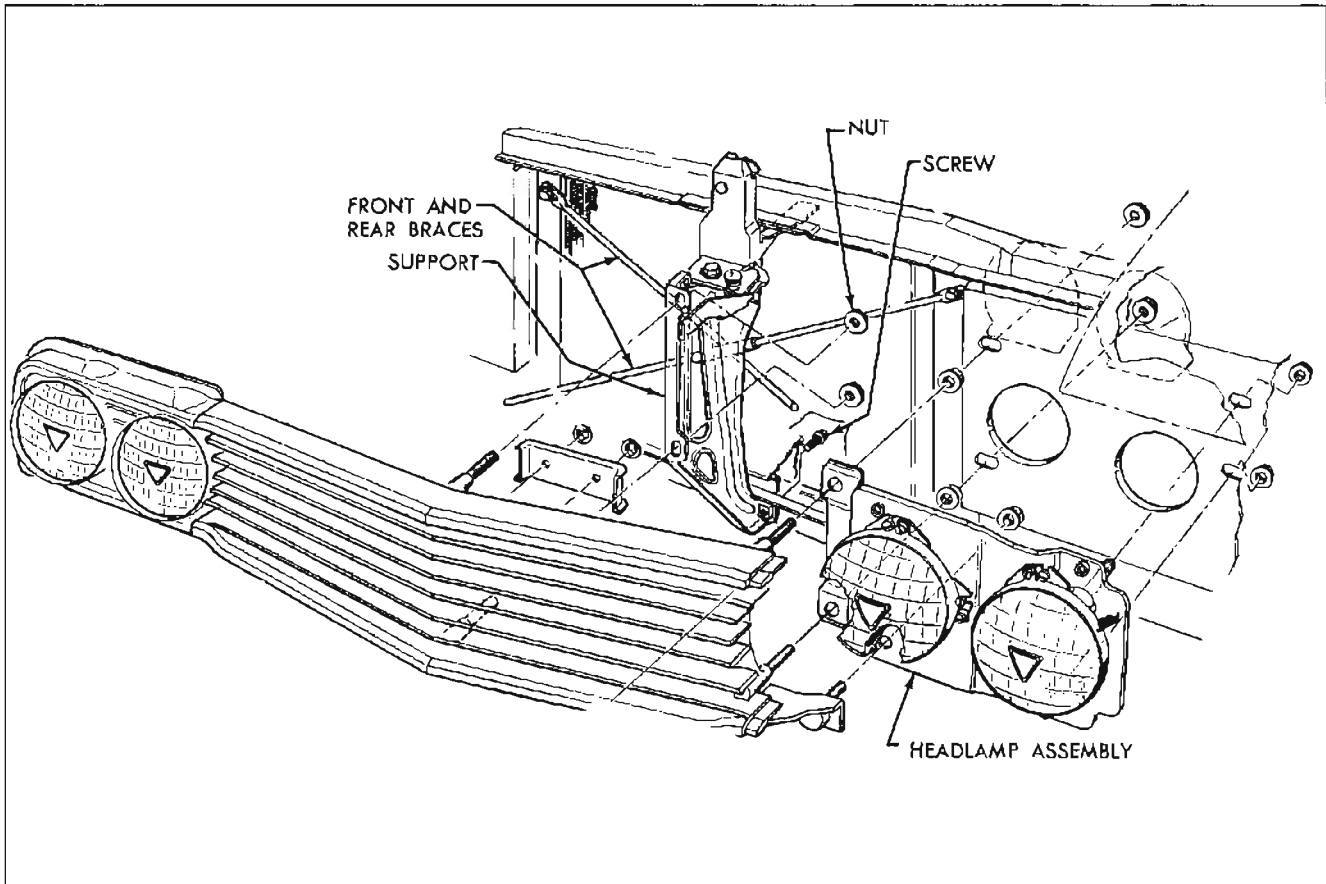

Figure 11-108—Front End and Headlamp Installation
3. Remove one bolt securing each cross brace (see Figure 11-108) to the radiator baffle and position front and rear braces out of way.